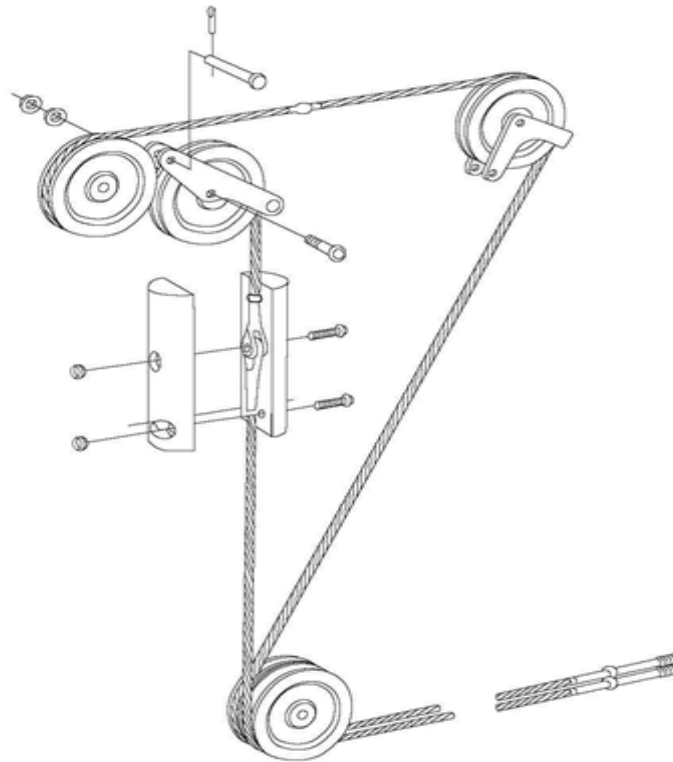

Figure 1 - Forward Elevator Control Cable - Adapted from the Beechcraft IPC.
**Applicability:** Model F33A, 35-C33A, V35, V35B and A36 aircraft, all S/N fitted with a forward elevator control cable configuration per figure 1 of this AD.
**Note 1:** No further AD action required for those aircraft already in compliance with DCA/B35/32A. This AD revised to clarify the applicability and revise the requirement. Figure 1 introduced to provide additional information to determine AD applicability. The repetitive inspections and the requirement to replace forward elevator control cable assemblies which have been in service for more than 15 years has been removed from this AD with the publication of manufacturer Instructions for Continuing Airworthiness (ICA).